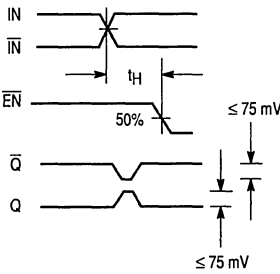

Figure 2. Hold Time
6. The hold time is the minimum time that \overline{EN} must remain asserted after a negative going IN or a positive going \overline{IN} to prevent an output response greater than ± 75 mV to that IN/\overline{IN} transition (see Figure 2).